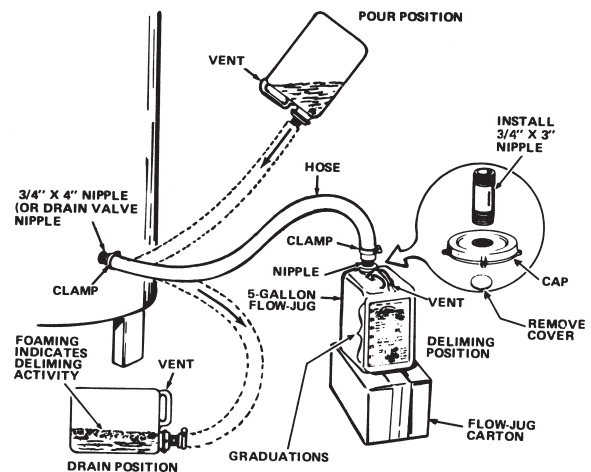

FIGURE 27.
6. Lift container to the "Pour" Position, see Figure 27, being careful to keep the vent in the handle above the liquid level
8. Let UN•LIME remain in the heater for 5 minutes and then lower the container to the "Drain" Position, see Figure 27.